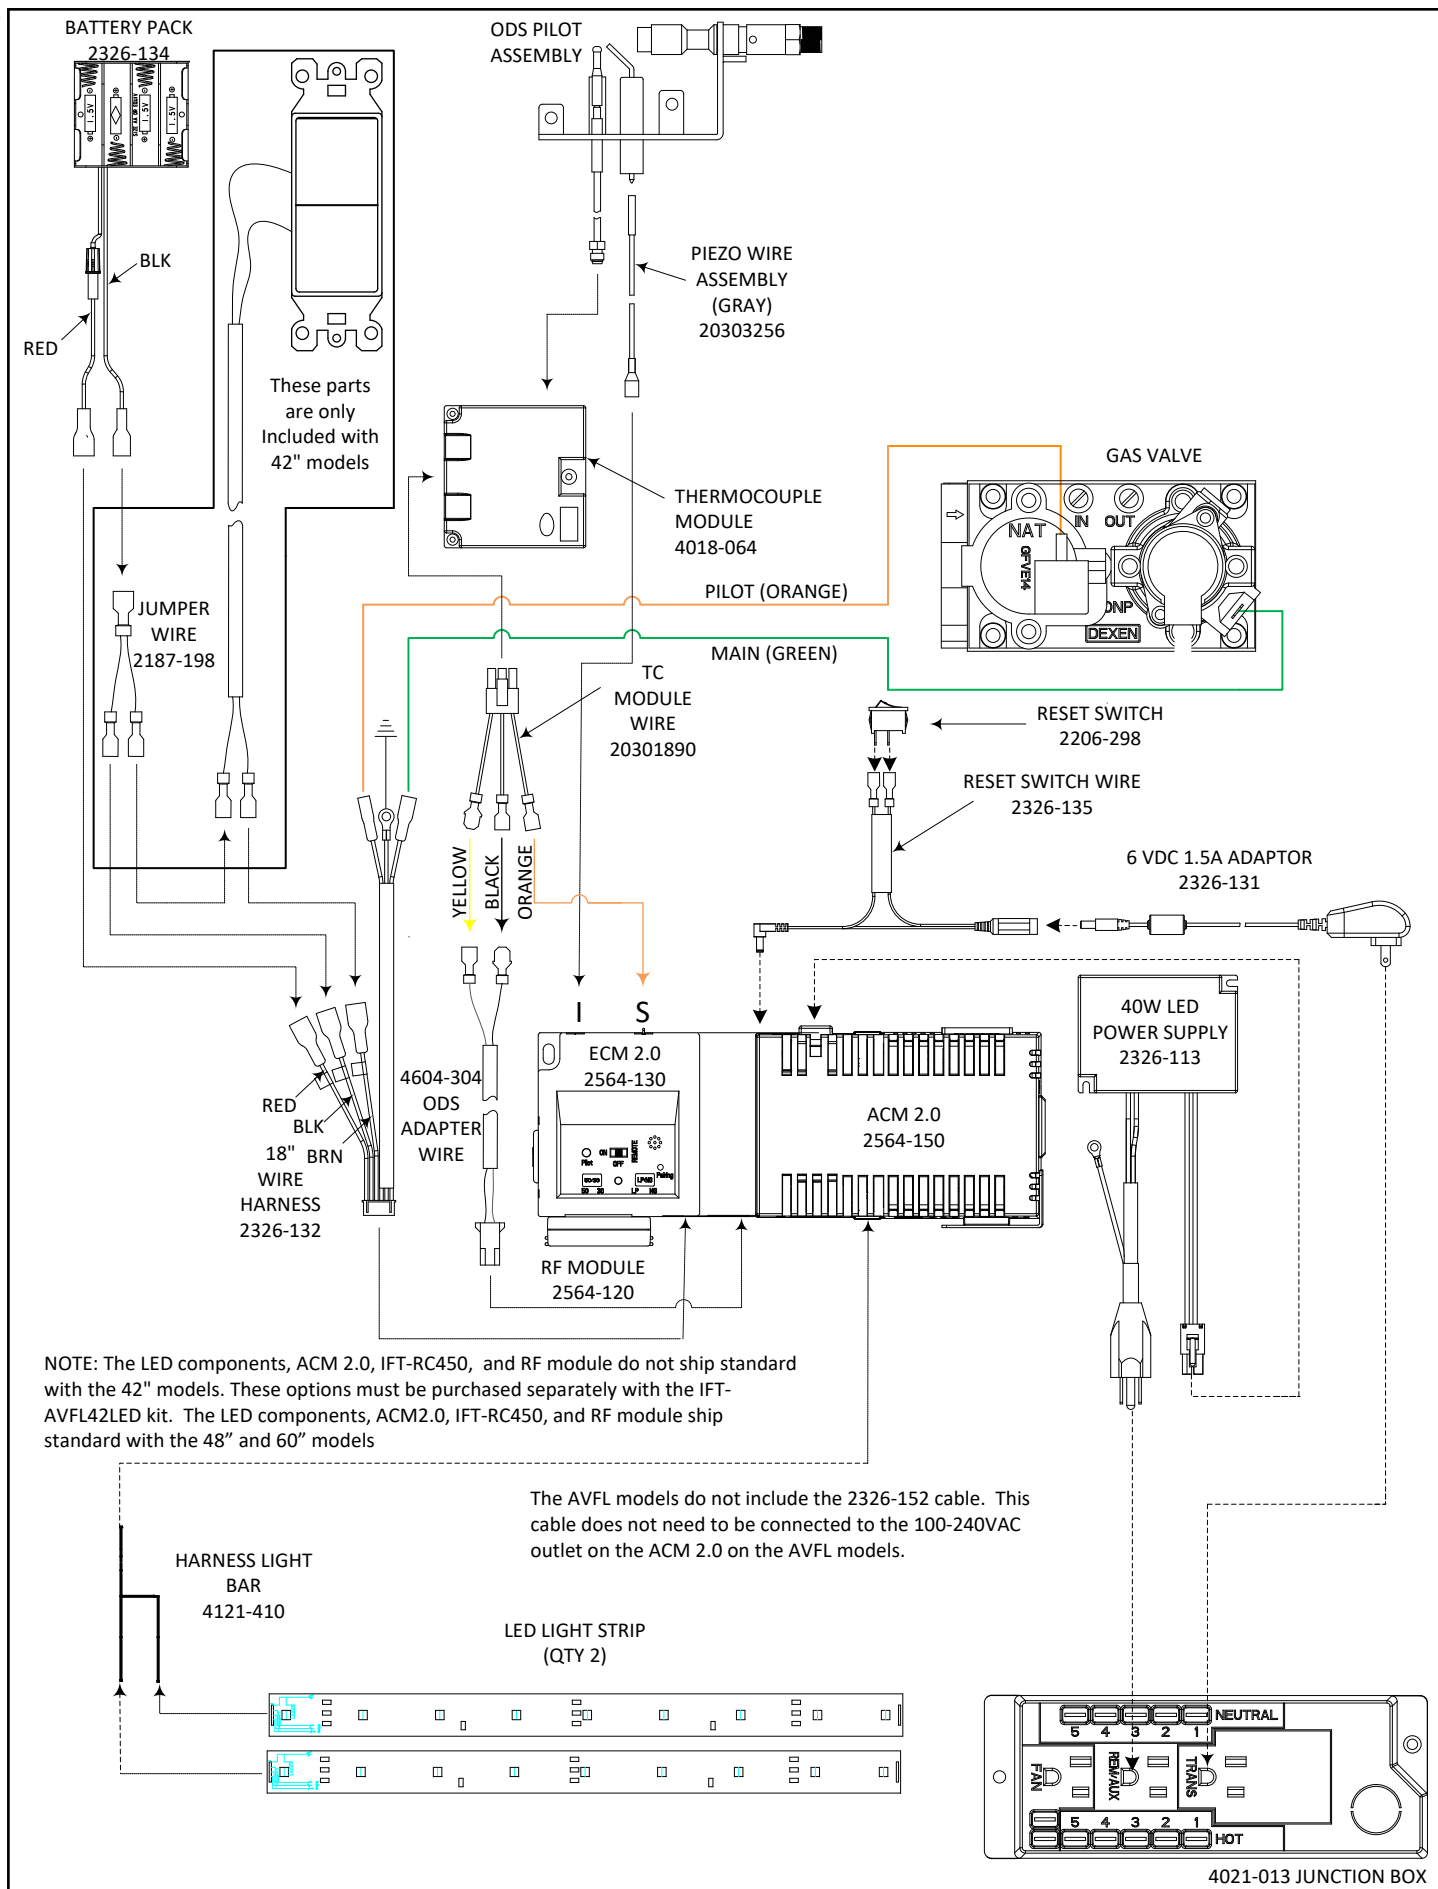

Figure 6.3 - IntelliFire Touch with ODS Wiring Diagram
- Refer to Figure 6.3, Intellifire Touch with ODS Wiring Diagram.